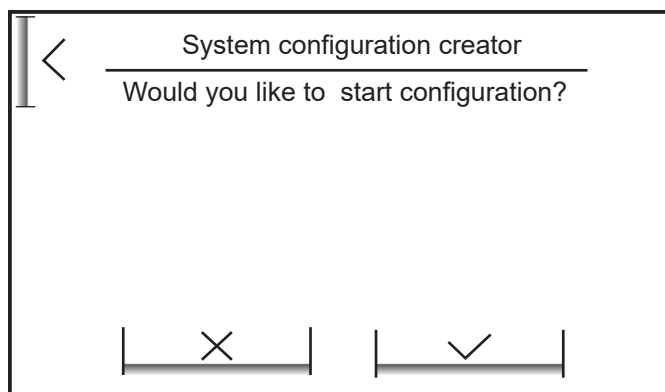

Figure 6-4: Configuration creator
5. The touchscreen will progress to ask if you wish to start a configuration. Tap ✓ to start the configuration creator. Refer to Figure 6-4 and Section 6.2.